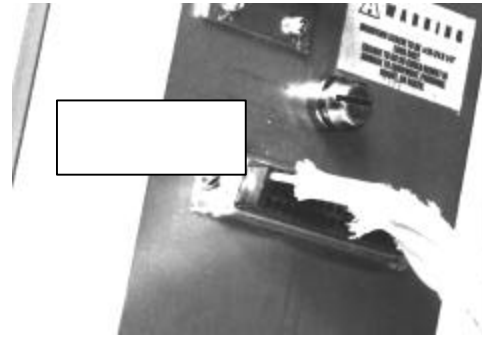

Figure 12. Harness connector attached to the trip unit.
3. Insert the 50-pin female connector on the wiring harness into the trip unit connector through the rear of the mounting plate. Secure to the mounting plate with the two small screws provided, as shown in Figure 12.